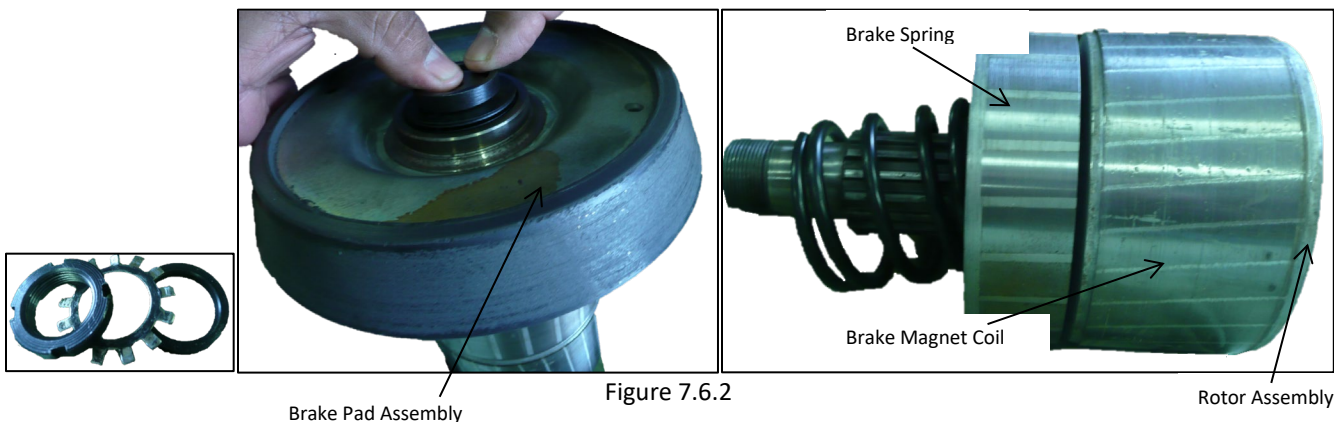

Figure 7.6.2
7. Release the brake pad by pushing the shaft down and removing the washer and plates (see Figure 7.6.2).